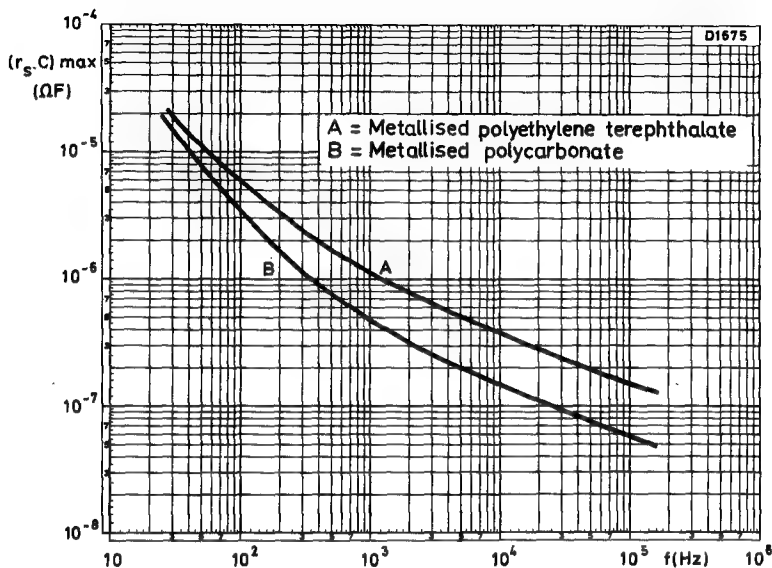

Fig. 2
The term  $(r_s \cdot C)$  has been plotted against frequency in Fig.2 (see page 3). The application of equation (2), and the value of  $(r_s \cdot C)$  at a particular frequency, will give the maximum power dissipation of the capacitor.
From Fig. 2 the  $(r_s.C)$  product is  $5 \times 10^{-7} \Omega F$ , therefore the power dissipated is